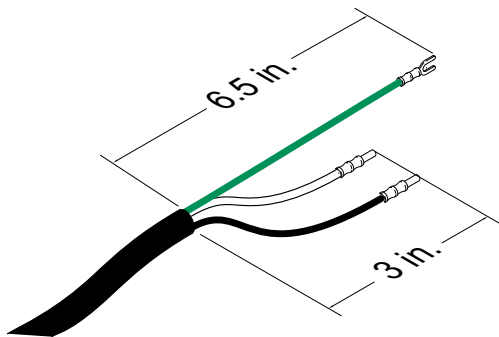

FIG. 6: Power Cord
- Add ferrules as necessary. See Fig. 6.